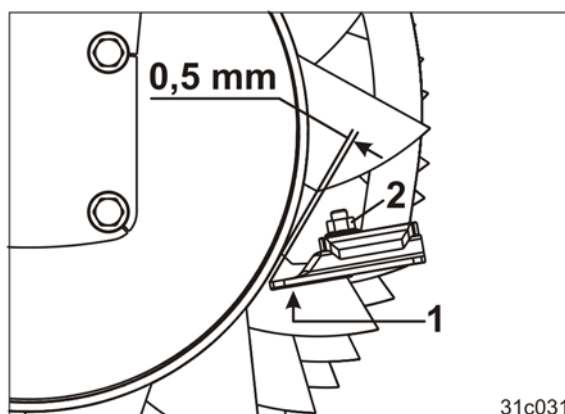

Fig. 168
4. Unscrew the screw (Fig. 168/2).
5. Screw on the scraper (Fig. 168/1) with a distance of 0.5 mm to the roller tube.